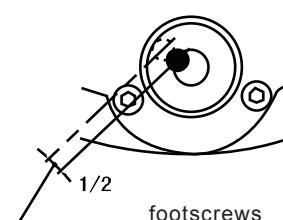

Fig.10
(I) Turn footscrews, making the bubble halfway to centre. (Fig.10)